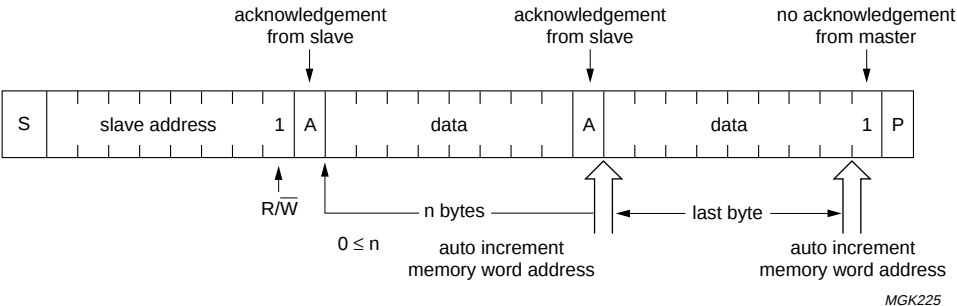

Fig.17 Current Address Read.
If the master wishes to read more than one byte (Sequential Read), it generates an Acknowledge ($A = 0$) after receiving the data byte, and does not generate a Stop. Any number of bytes can be read with this procedure; the address pointer will wrap-around to address 00H when the highest address is read. To end Sequential Read, the master generates a No-acknowledge ($A = 1$) and a Stop (P). Figure 17 illustrates the Current Address Read and Sequential Read procedure.